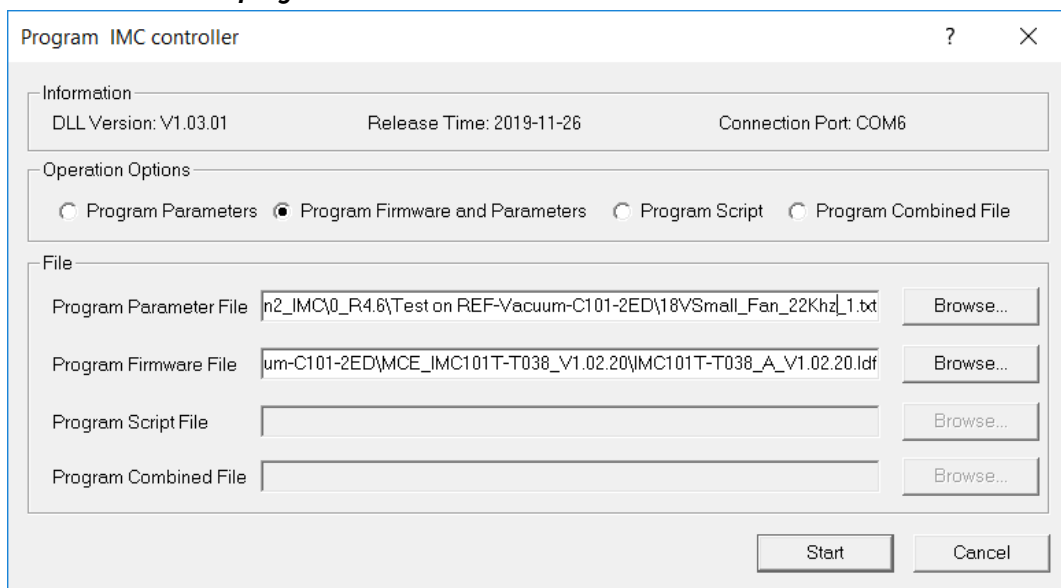

Figure 12 MCEDesigner warning message
- In case of blank IC: Use the following steps to program the firmware and the parameters file into the internal Flash memory of iMOTION™ Control IC: Click on system page, click “Tools” > “Programmer” and select “Program Firmware and Parameters,” shown as Figure 12 below. The encrypted firmware is available in “IMC101T MCE Software Package,” regarding the parameters file, browse and select the .txt file in step 3.